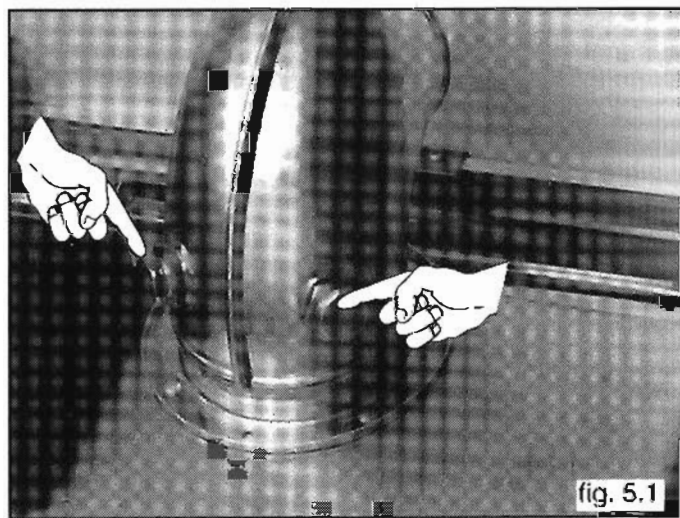

fig. 5.1
- 6 Visually check the flue system for soundness. Check all clamps, gaskets and fixings are secure and tight. To check the exhaust gas, remove the right screw indicated in fig. 5.1 and connect the analyser to the flue gas sampling point. To check the air inlet temperature, remove the left screw indicated in fig 5.1 and insert the probe of a thermometer.